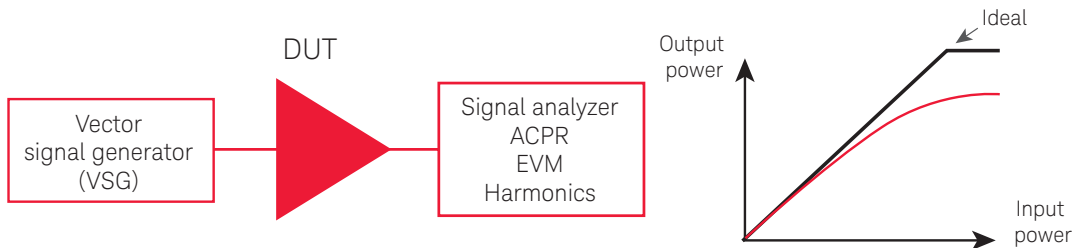

Figure 8. Setting the device output power level in a power amplifier test system.
The benefits of both time-saving capabilities, peer-to-peer and on-board processing, can be demonstrated in this power amplifier (PA) test and characterization example (Figure 8). For PA test, a big concern is to balance the time it takes to perform the test as well as ensure repeatability across all the units under test. Generally, as test speed increases, test repeatability decreases.